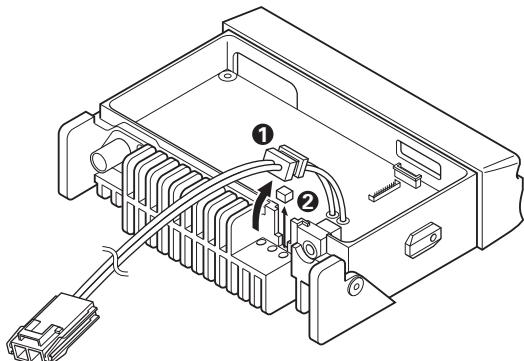

Fig. 3
1. Lift the DC cord bushing (①) from the chassis. Peel the pad as shown in Figure 3 (②).